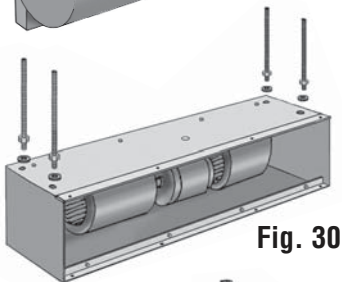

Fig. 30
4. Place a hex nut 3/4" from one end of each threaded rod. Place a washer onto each rod and screw the 4 threaded rods into the four mounting holes. They should not extend more than 3/4" into the unit. (See Fig. 30)